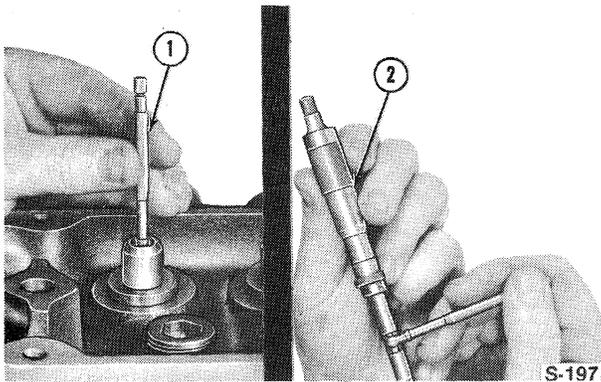

Figure 16
8. Using a telescopic gauge and micrometer, measure the valve to guide clearance, Figure 16. If the clearance exceeds the specified limits, see "Specifications"—Chapter 3. Ream the valve guide to fit the next oversize valve.